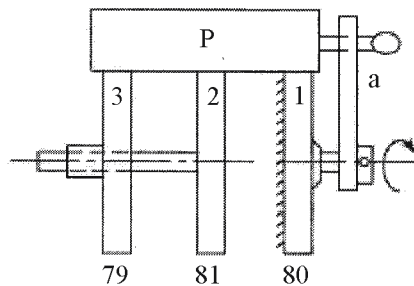

Fig. 1
- (b) Fig. 1 shows an epicyclic gear train known as Ferguson's paradox. The gears have number of teeth as indicated. Gear 1 is fixed to the frame and is stationary. The arm a and the gears 2 and 3 are free to rotate on the shafts. The pitch circle diameter of all are the same so that the planet gear P meshes with them all. Find the number of revolutions of gears 2 and 3 for one revolution of arm a. **15**